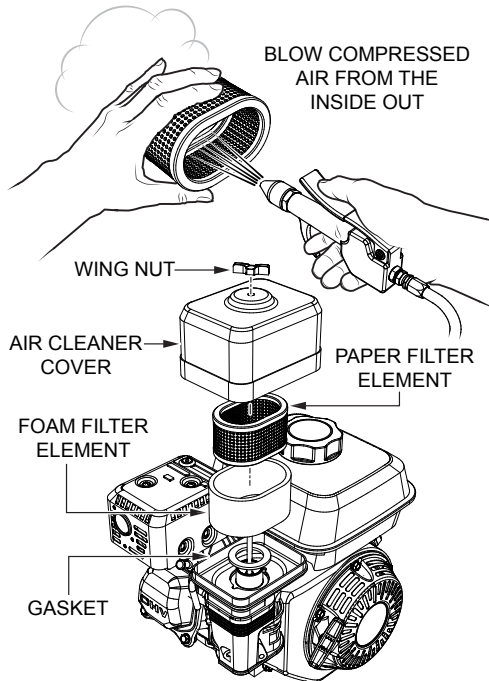

Figure 36. Engine Air Cleaner
1. Remove the air cleaner cover and foam filter element as shown in Figure 36.
2. To remove dirt, tap the paper filter element (Figure 36) several times on a hard surface, or blow compressed air not exceeding 30 psi (207 kPa, 2.1 kgf/cm²) through the filter element from the air cleaner case side. **NEVER** brush off dirt. Brushing will force dirt into the fibers. Replace the paper filter element if it is excessively dirty.